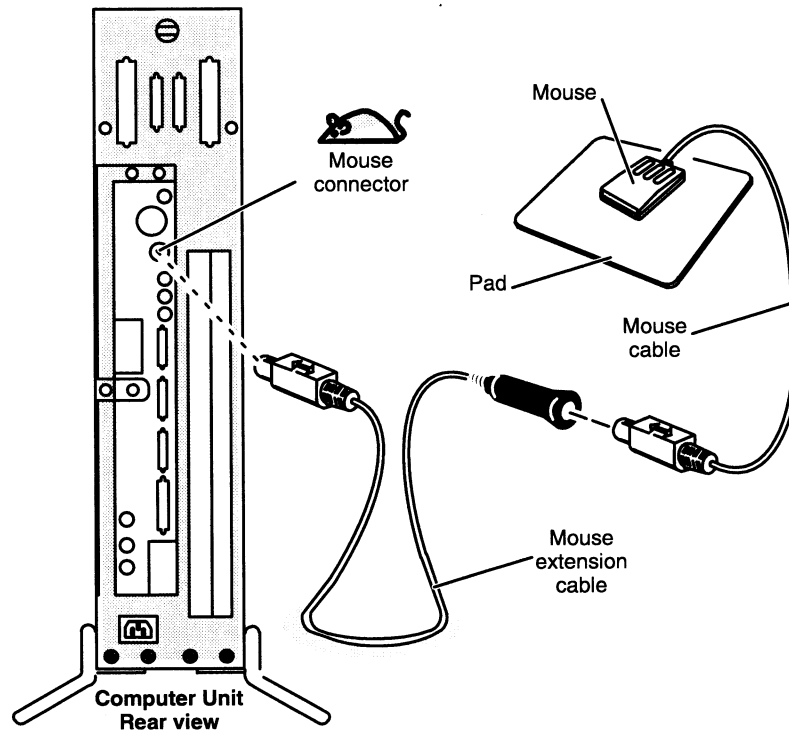

Figure 2-6 Connecting the Mouse
3. Attach the female end of the mouse extension cable to the end of the mouse cable; then plug the other end of the extended mouse cable into the rear panel of the computer unit, as shown in Figure 2-6.